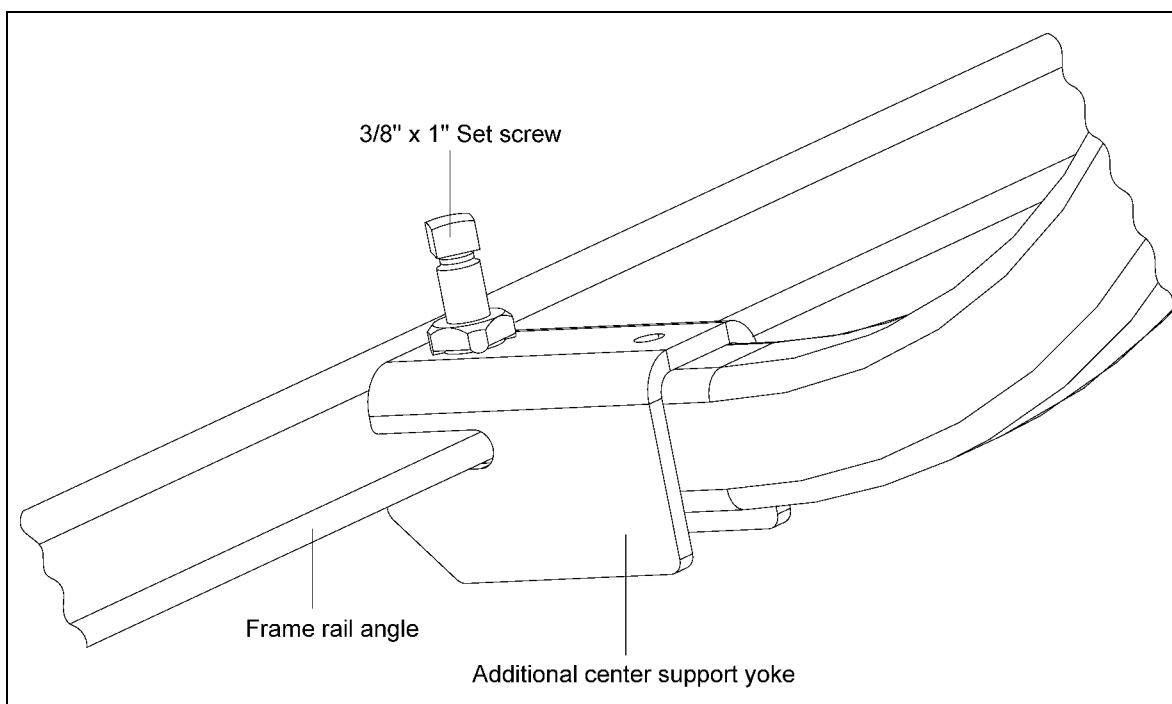

Figure 4Y
- Place bottom of support yoke onto the frame rail angle flange and fasten with 3/8" x 1" set screw. (See Figure 4Y.)